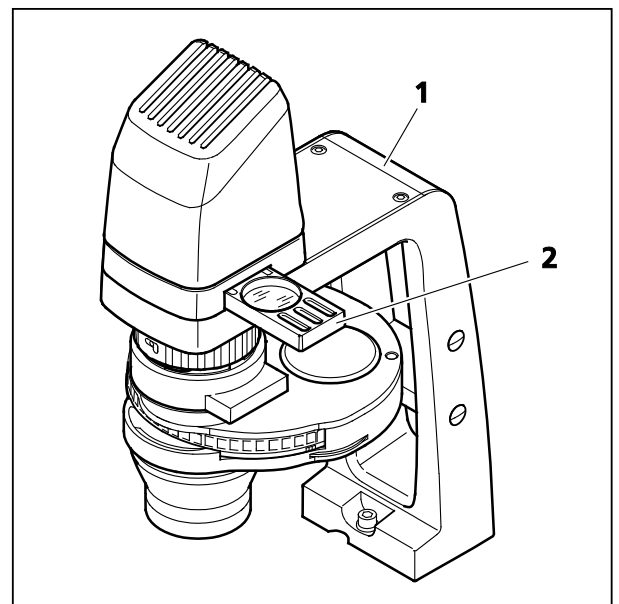

Fig. 2-22 Transmitted Light Filter Slider
- Alternately usable two-position transmitted light filter slider (Fig. 2-22/2) for $d=32$ mm filters (neutral density and conversion filters or shutter plate) fixed-mounted in the carrier (Fig. 2-22/1)